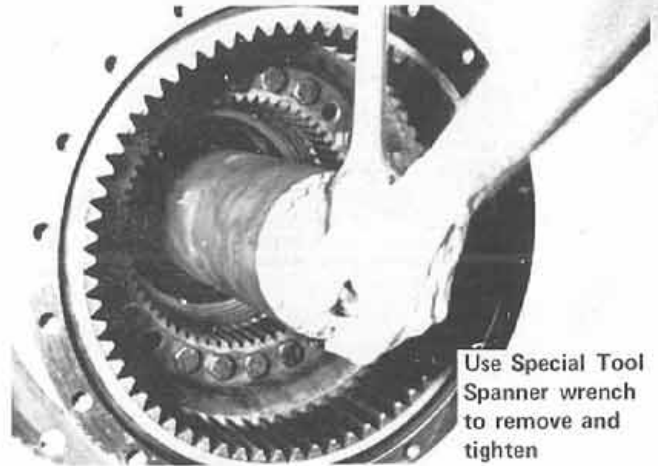
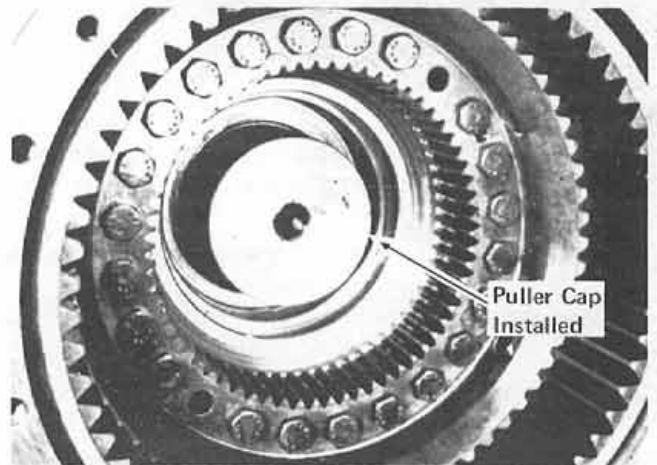
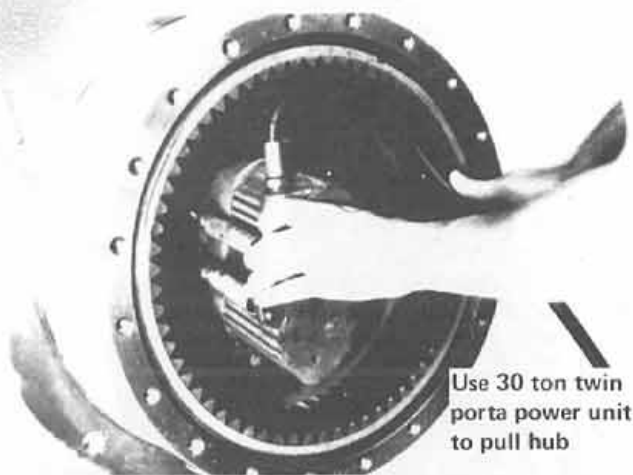
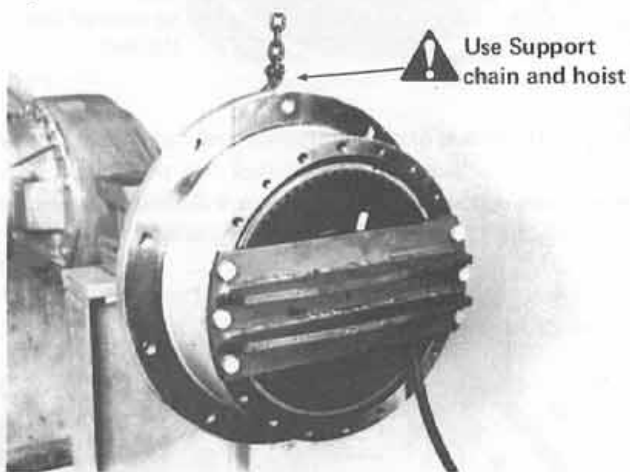

Figure 9
Figure 10
Figure 11
Figure 12
**Step 10** Remove axle lockwasher and nut with spanner type wrench. (see figure 9) Install the puller cap over axle threads. (see figure 10) Place a 30 ton power-twin hydraulic unit between puller cap, plate and remove hub assembly. (See figure 11 page CC-12). Bolt the puller plate across hub and fasten with 10mm bolts. (See figure 12 page CC-12).
**Step 11** Remove the double ring gear by removing 24 mm bolts secured to the ring gear support. (See figure 10 page CC 11).